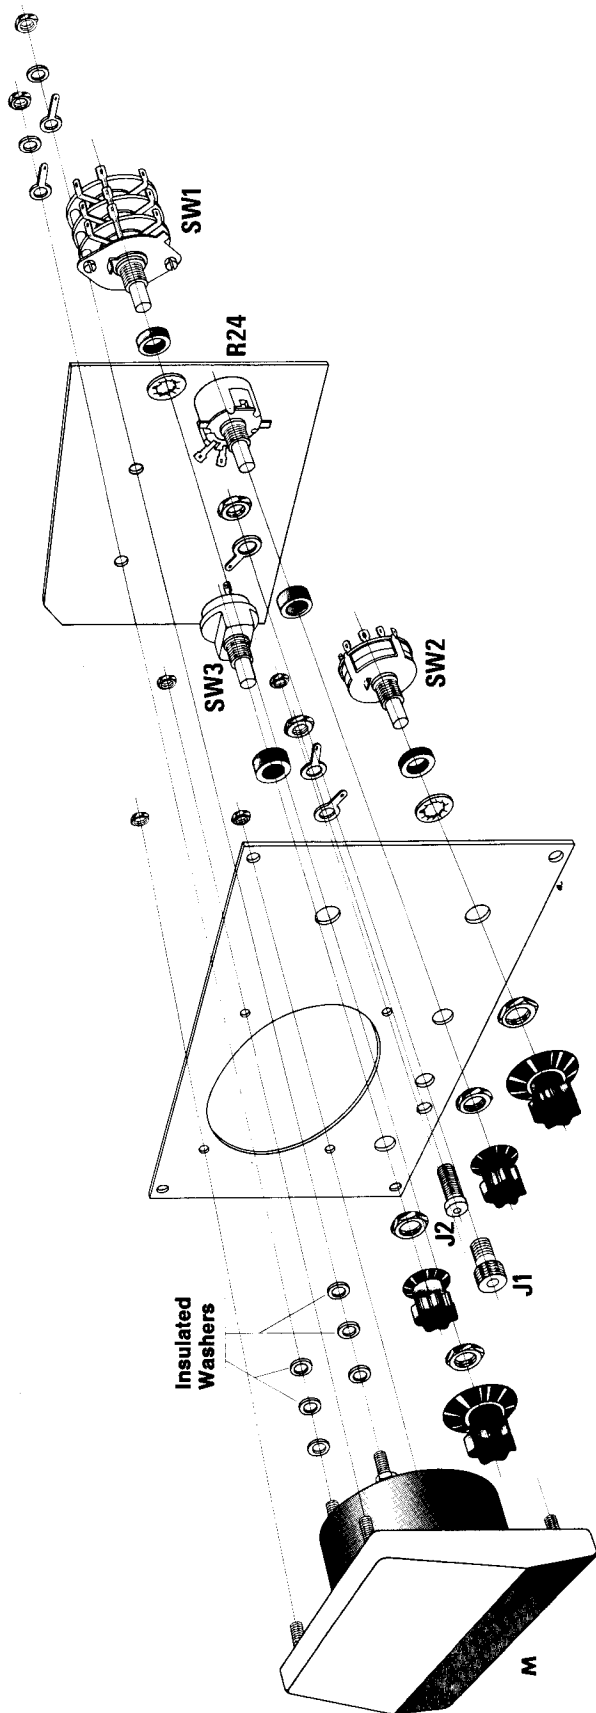

Figure 4 - Exploded view of panel assembly.
**Assembling the separate parts - fig. 4.**